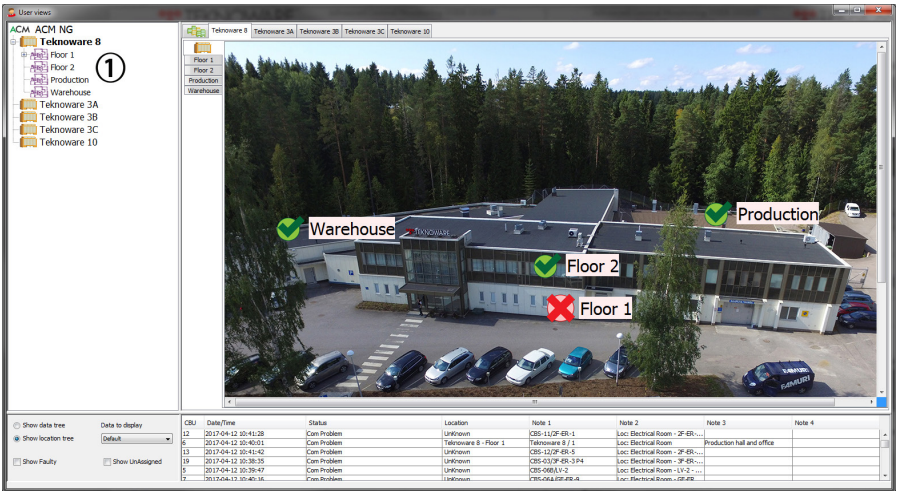

Figure 9. USER VIEWS – Setting up categories – Areas
4. Now, choose a Building (by clicking the Building icon on the image or from the tabs above the image). In the Figure 9, building “Teknoware 8” is selected. Then, from the leftside data tree (No. 1 in the Figure 9), right click the Area you wish to add to the Building Image, and select Add to map. Then left click the image on the spot, you wish to add the Area to. In the Figure 9 above, building “Teknoware 8” is divided into four Areas, which are set on the Building Image according to their physical location.